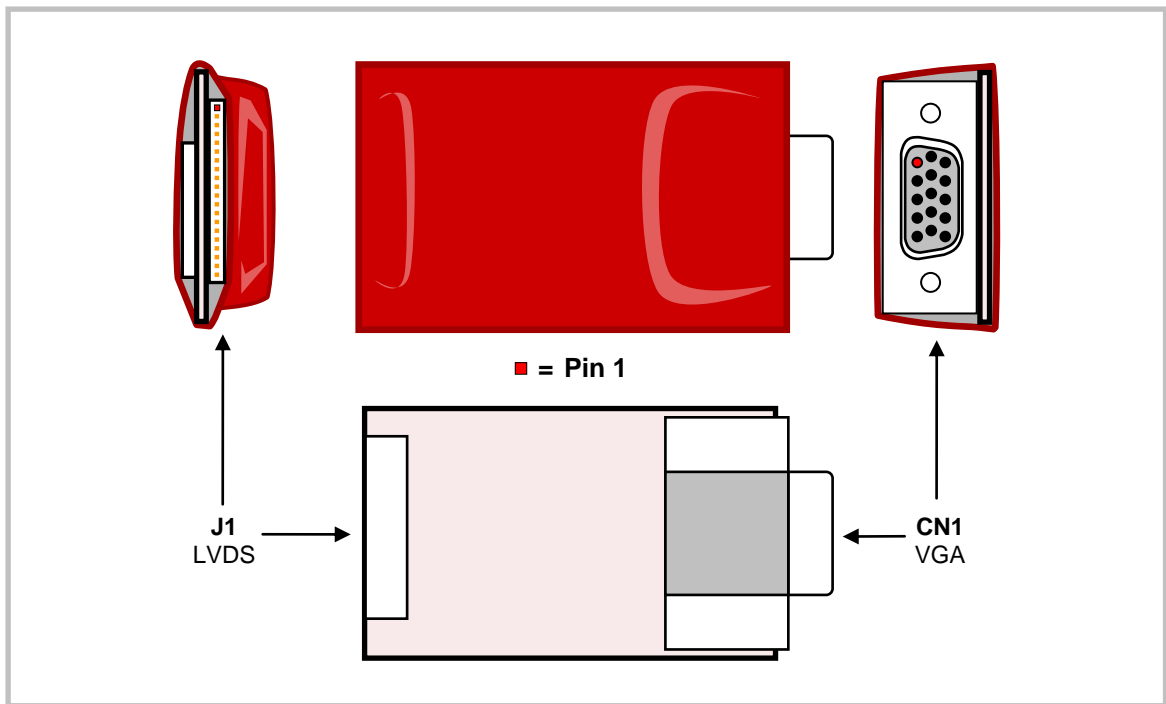

Figure 12. VL-CBR-2014 LVDS to VGA Adapter Card
2. Plug the LVDS cable into connector J1 of the VL-CBR-2014 adapter card (see Figure 12).